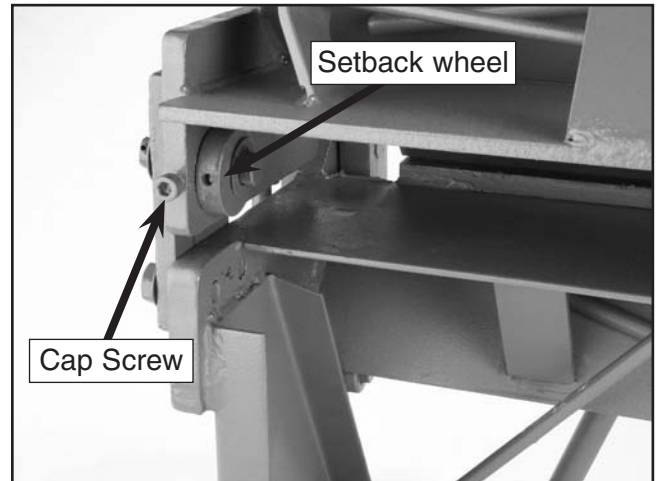

Figure 10. Cap screw and setback wheel.
2. Loosen the cap screw shown in **Figure 10**.